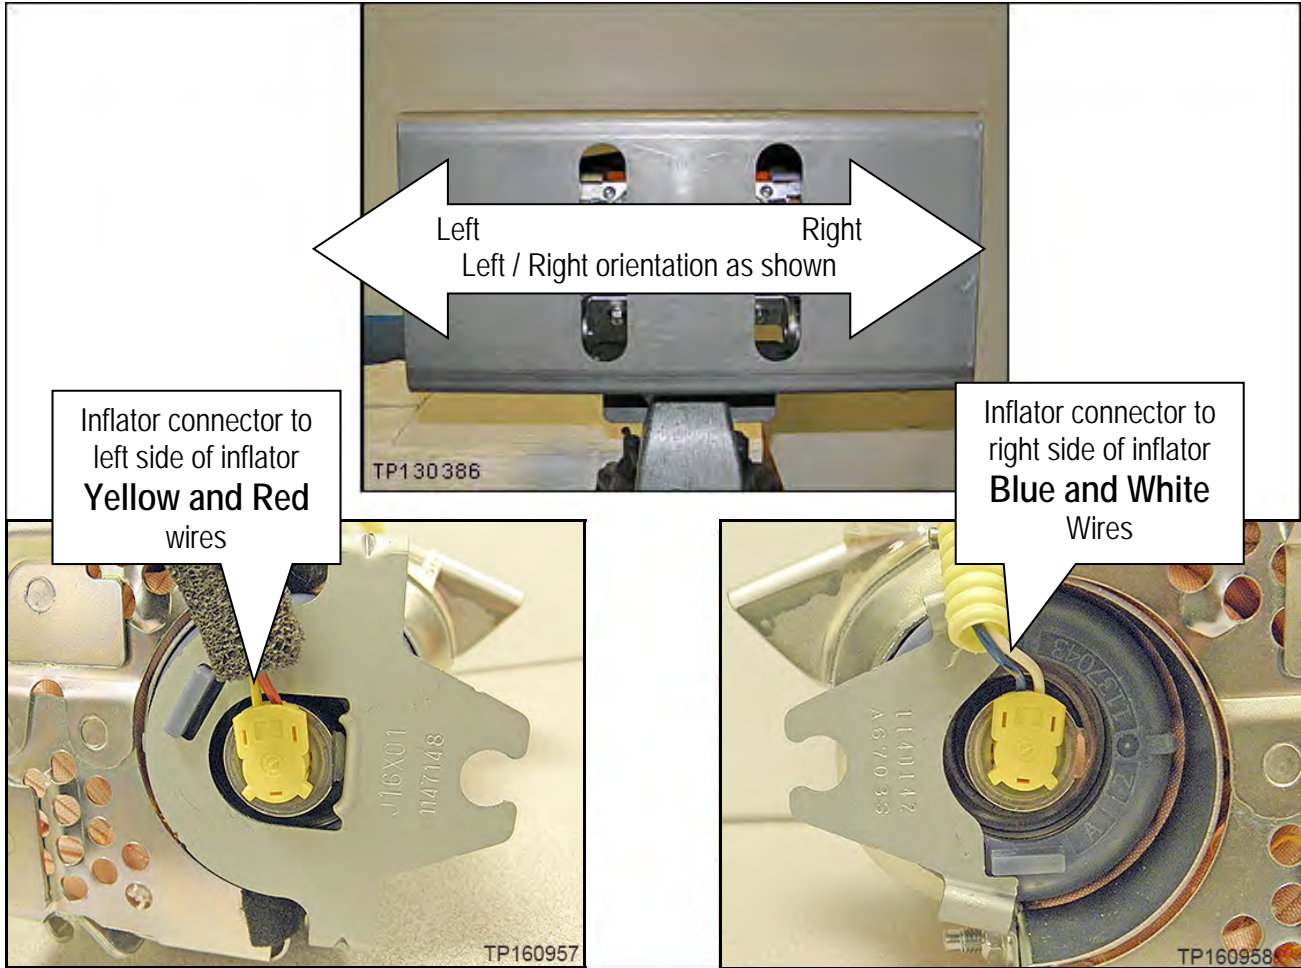

Figure 32
- Make sure to attach the connectors to the correct ends of the inflator (see Figure 32 and 33).
- Refer to Figures 32, 33, and 34.